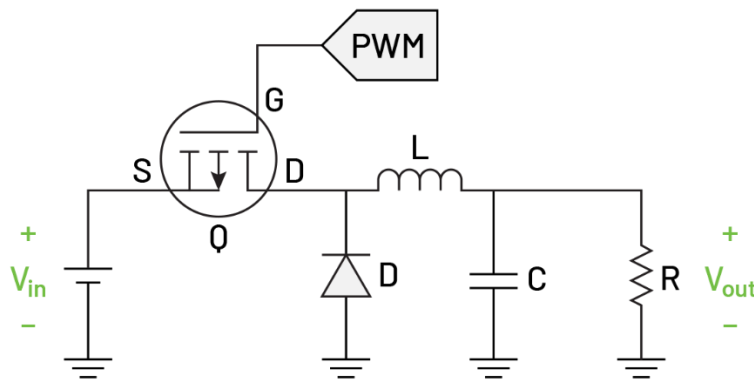

Figure 1. Buck converter circuit diagram.
1. The buck converter is designed to step down DC voltage from a DC source. It uses a switching element (in this case a P Channel MOSFET), an inductor, a diode, and a capacitor. The switching element rapidly turns on and off, controlling the flow of energy through the inductor, which smooths the current. The diode ensures current flows in the correct direction, while the capacitor filters the output to provide a stable lower voltage. Build the buck converter circuit in Figure 1. with the corresponding components. Make sure to refer to the MOSFET's schematic to connect the source, drain and gate correctly.